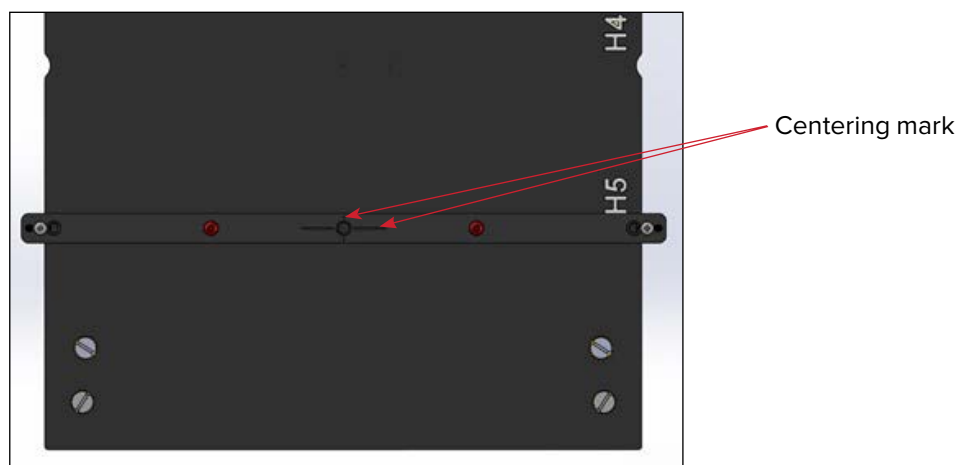

Fig. 50
3. Place Centering Fixture on Locating Bar. Using the CT Laser alignment system, determine where the alignment beam hits the Centering Fixture guide slits mark on the Locating Bar (Fig. 50).